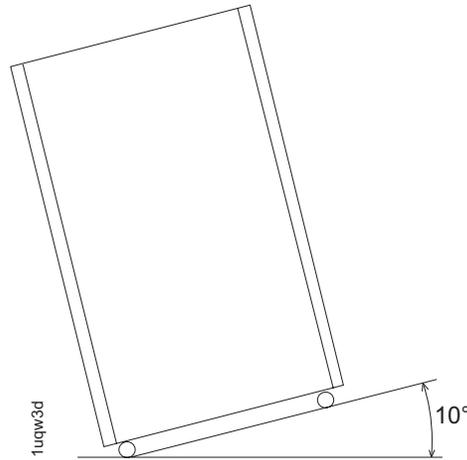

Figure 13. Maximum tilt for a packed frame is 10°
3. To compensate for the weight of the storage system shipment, ensure that the loading ramp at your site does not exceed an angle of 10°. (See Figure 13.)